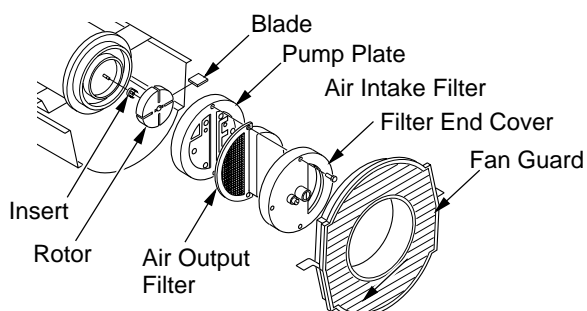

Figure 25 - Rotor Location, 40/55T/70T Models
2. Remove filter end cover screws using 5/16" nut-driver (see Figure 25 or 26).